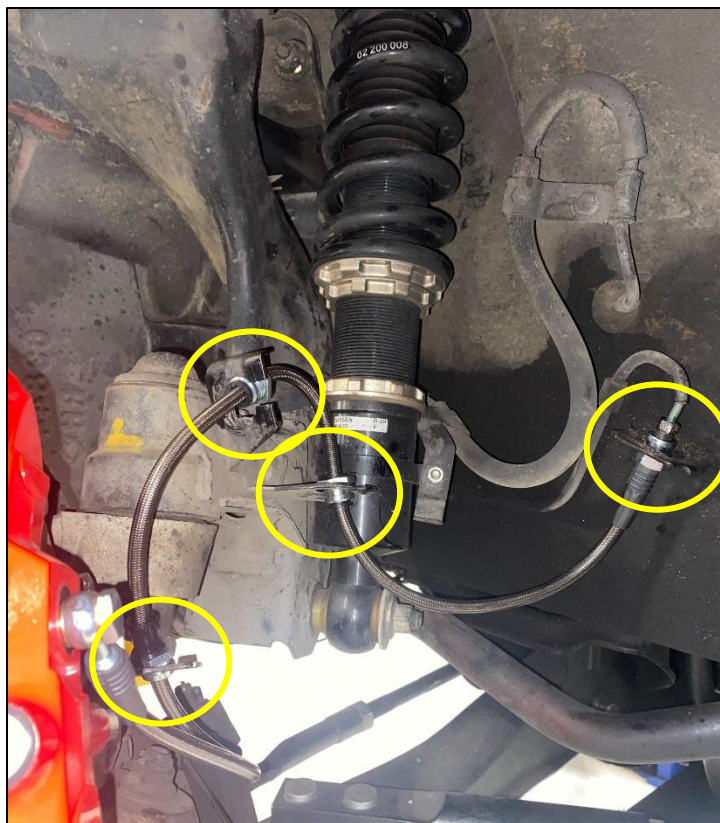

Figure 10
15. Route the rest of the Brake Line through the other (3) three Mounting Points. The Mounts on the Brake Line can be moved to fit the Brackets as necessary. Secure the Line with the OEM Retaining Clips. *Figure 10.*